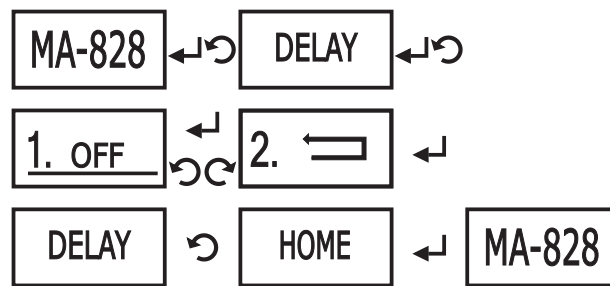

Fig. 12
- (A) Press DSP Control Rotary Knob at the home screen and turn it right to select EFFECT. Press the knob again to set the EFFECT Mode.
- (B) Turn the knob right or left to select the preset EFFECT Modes.
- (C) Select the desired mode and press the knob to activate it, now the activated mode is underlined. Turn the knob to 4. RETURN and press to go back to EFFECT.
- (D) Turn the knob to HOME and press to save EFFECT mode and exit to the home screen.
- (E) The saved parameter will be displayed prior to others when the system is restarted.
- (F) Explanation of Symbols:
6. DELAY Setting. Fig. 12: